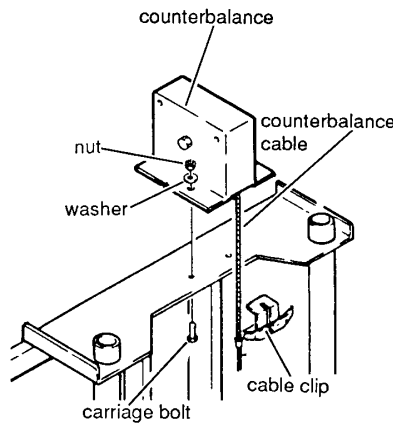
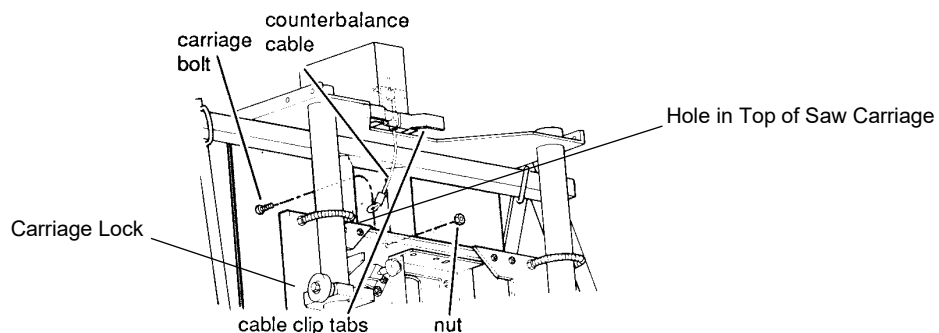
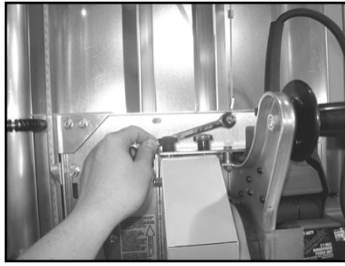
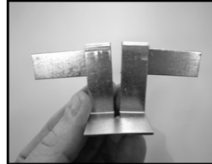

Figure 12: Installing the Counterbalance
Figure 13: Attaching the Counterbalance Cable
Figure 14: Attaching Counterbalance Cable
Figure 15: Cable Clip
A Counterbalance is used on Models **C-Series** and **H-Series** to offset the weight of the carriage and saw. The **6400** and **6800** models use a Counterweight system that is factory installed. When unpacking a 6400 or 6800, loosen carriage lock (Fig. 13), move saw carriage to center. Remove wood support block from bottom, center of weight canister.
1. Remove the two 1/4-20 x 5/8" carriage bolts, nuts, and washers (Fig. 12) from the counterbalance.
4. Hold the Saw Carriage (Page 12) securely while you loosen the Carriage Lock (Fig. 13). Raise the Saw Carriage until the right hole (Fig. 13) in the top of the Saw Carriage aligns with the eye in the end of the Counterbalance Cable (Fig. 13) making sure the cable is **behind** the Saw Carriage (Fig. 14). Tighten Carriage Lock (Fig. 13).
5. Hold the cable end behind the carriage. Remove the carriage bolt and nut, on operators side of carriage, and use them to attach the eyelet of the Counterbalance cable end to the right side, oval hole in the Saw Carriage (Fig. 14). Tighten securely. The cable should be straight up and down (Fig. 16).
6. Bend the Cable Clip (Fig. 15) tabs forward by hand, so they look like the ones in Fig. 12 & 13.
7. Loosen the Carriage Lock (Fig. 13) and lower the Saw Carriage until the Cable Clip is fully exposed, tighten Carriage Lock (Fig. 13). Remove the Cable Clip (Fig. 15) from the Counterbalance Cable and save it for future use (e.g., if you remove the Counterbalance in the future, you will need the Cable Clip to support the tension in the Counterbalance).